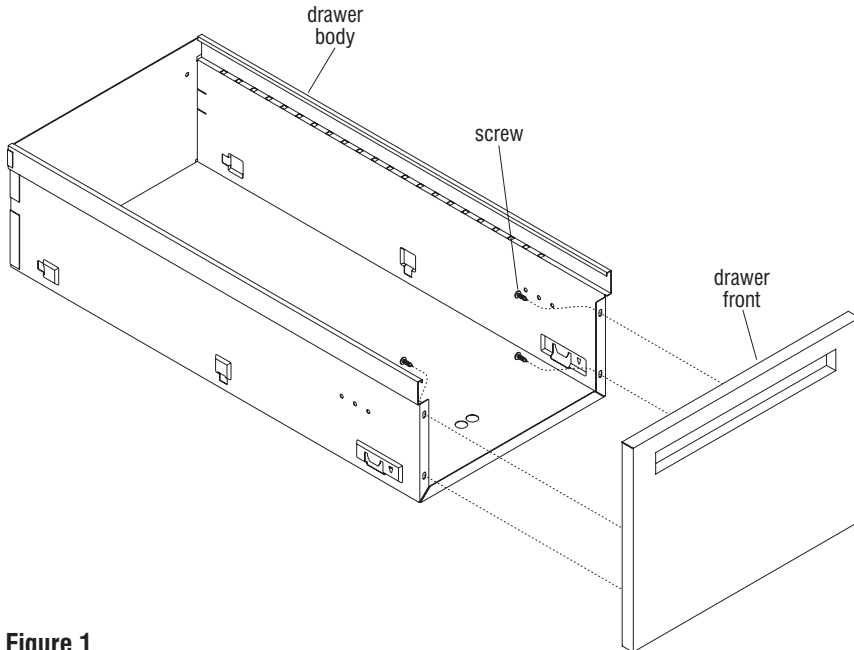

Figure 1
1. Open the drawer fully and empty any contents out. Using a Phillips screwdriver remove the four screws to unfasten the drawer front from the drawer body. Carefully set parts aside for re-assembly in step 5 (Figure 1).
5. Replace the drawer front which was removed in step 1 and re-organize any contents removed (Figure 1).